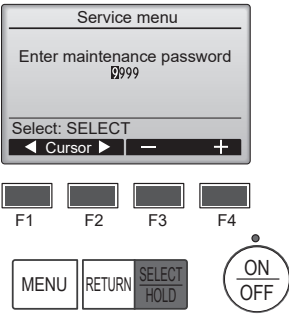

Fig. 7-2
- ① Select "Service" from the Main menu, and press the [SELECT/HOLD] button.
② When the Service menu is selected, a window will appear asking for the password. (Fig. 7-2)